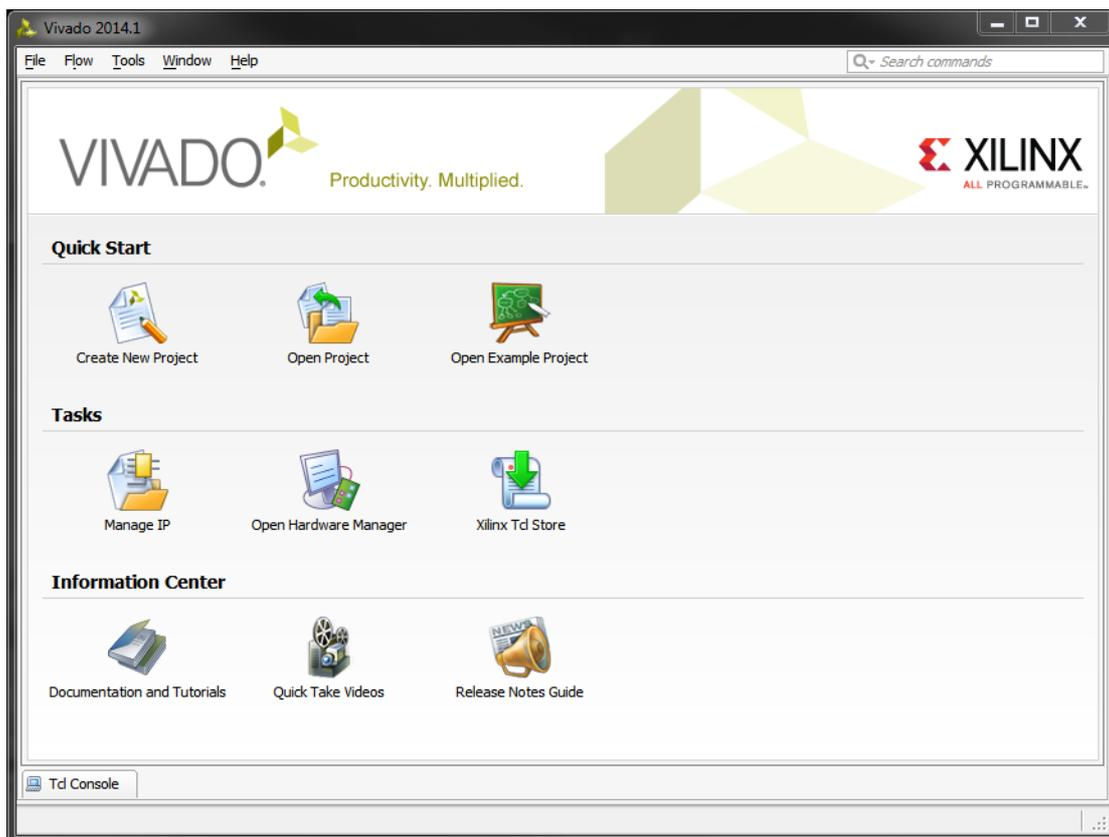

Figure 2.1: Vivado IDE Getting Started screen
- When Vivado loads, you will be presented with the *Getting Started* screen as in Figure 2.1.